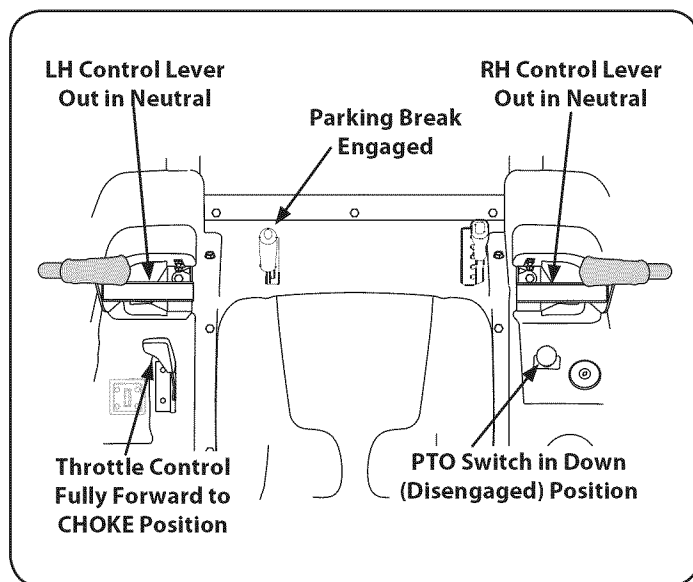

Figure 12
2. Engage the parking brake . Refer to Figure 12.
3. Make certain the PTO switch is in the disengaged (down) position. Refer to Figure 12.